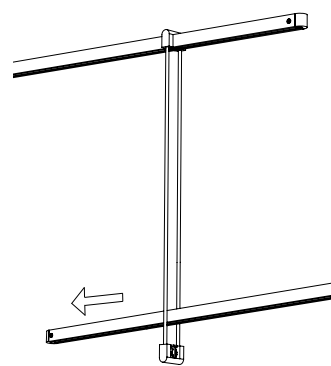

Fig. 6
3. Pass a second Power Bar between the rods of the Power Bar Hanger. (Fig. 6)